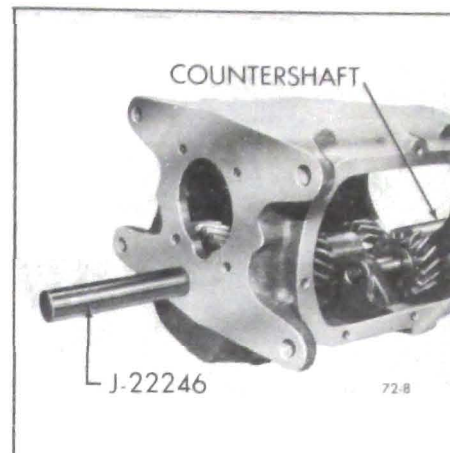

Figure 72-8-Removing Countershaft
11. Using Countershaft Alignment Tool J-22246, remove counter gear shaft and its woodruff key through rear of case. See Figure 72-8. Remove two (2) tanged bronze thrust washers.